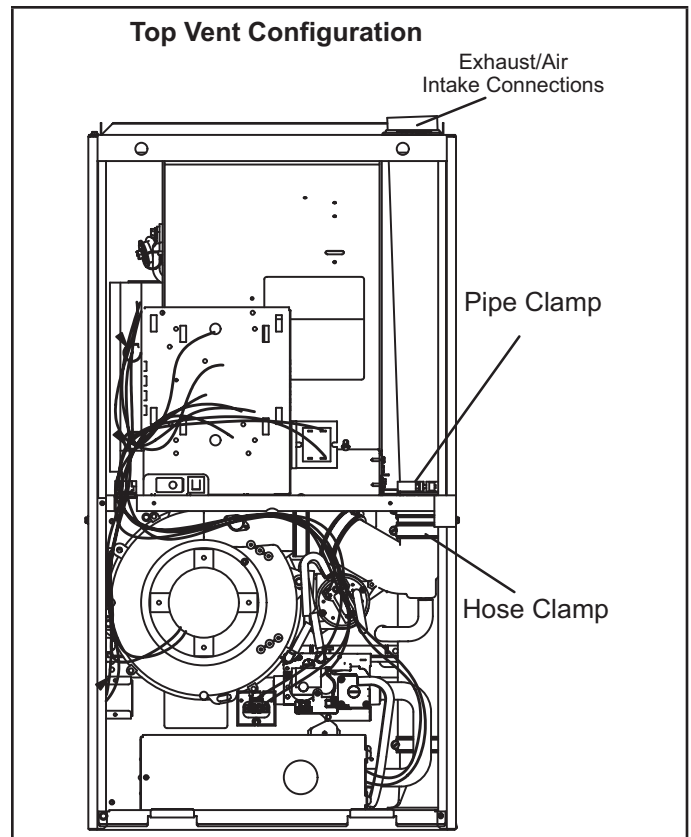

FIGURE 17
- 3 - Loosen the clamp which secures the pipes at the blower deck. See FIGURE 17.